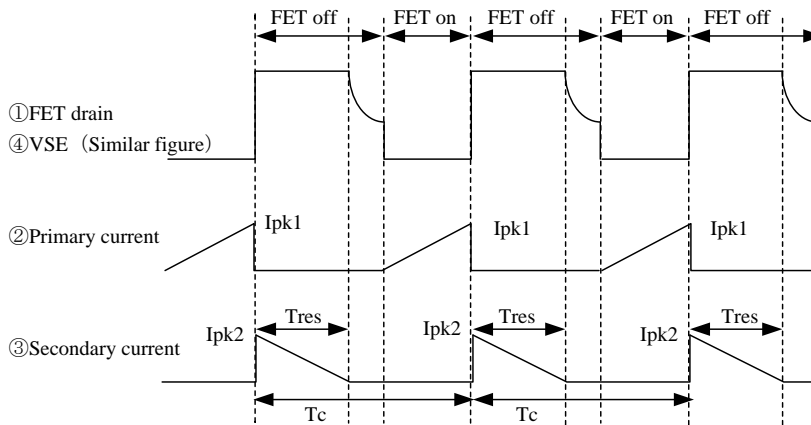

Figure 6.2 Waveform of each point of Figure 6.1 diagram
By monitoring VSE and ISE signals and controlling them, LED current (output current) can be controlled to be a constant level. Figure 6.2 shows FET Drain voltage, primary current and secondary current waveform during FET on and off. VSE signal is resistance-divided voltage of auxiliary winding output. Drain voltage waveform of FET and VSE waveform are same polarity and similar. As LED current (output current) is the average of secondary current, it is shown by equation (1).